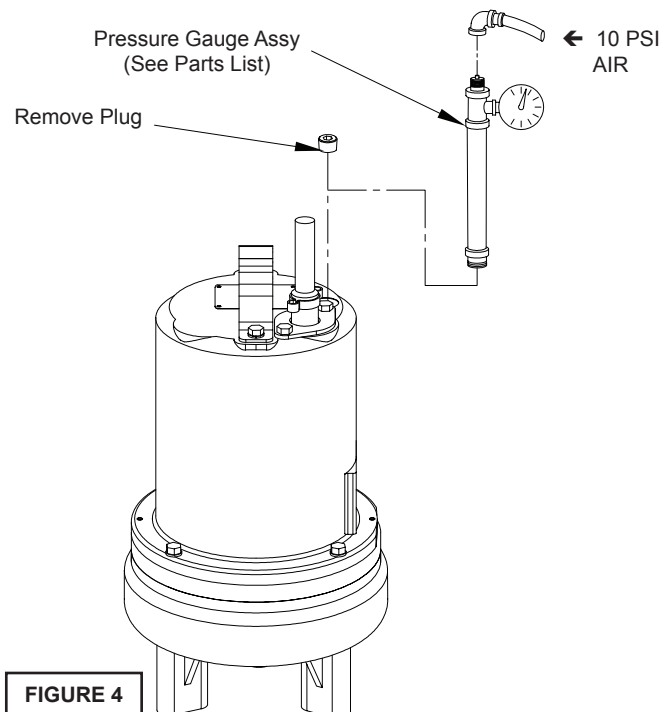

FIGURE 4
Pumps that have been disassembled, Motor Housing - If the pump has been disassembled, the oil should be drained before a pressure test, as described in section F-1.1. Remove pipe plug (39) from motor housing (6). Apply pipe sealant to pressure gauge assembly and tighten into hole (See Figure 4).